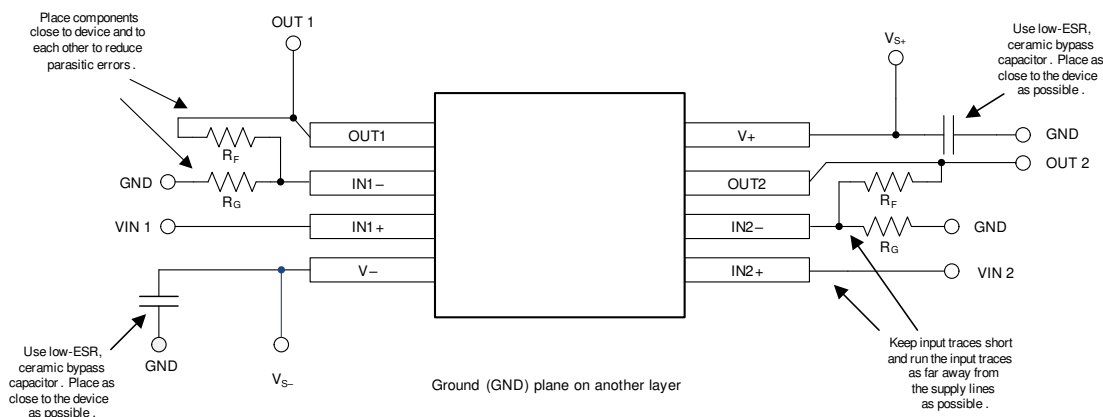

Figure 45. Layout Example
- Place the external components as close to the device as possible, as shown in Figure 45. Keeping  $R_F$  and  $R_G$  close to the inverting input minimizes parasitic capacitance.